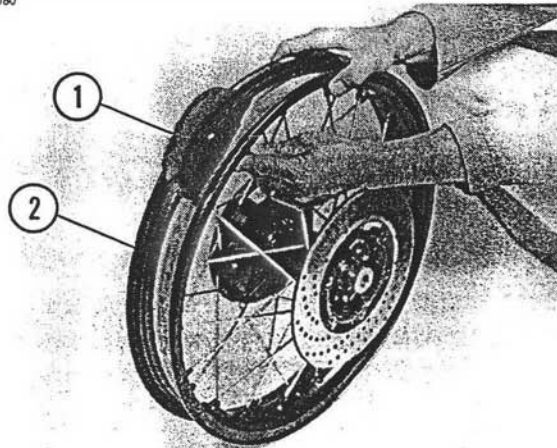

Figure 5-55. Removing Bead Lock
13. See Figure 5-55. Remove bead lock (1) from wheel rim (2).